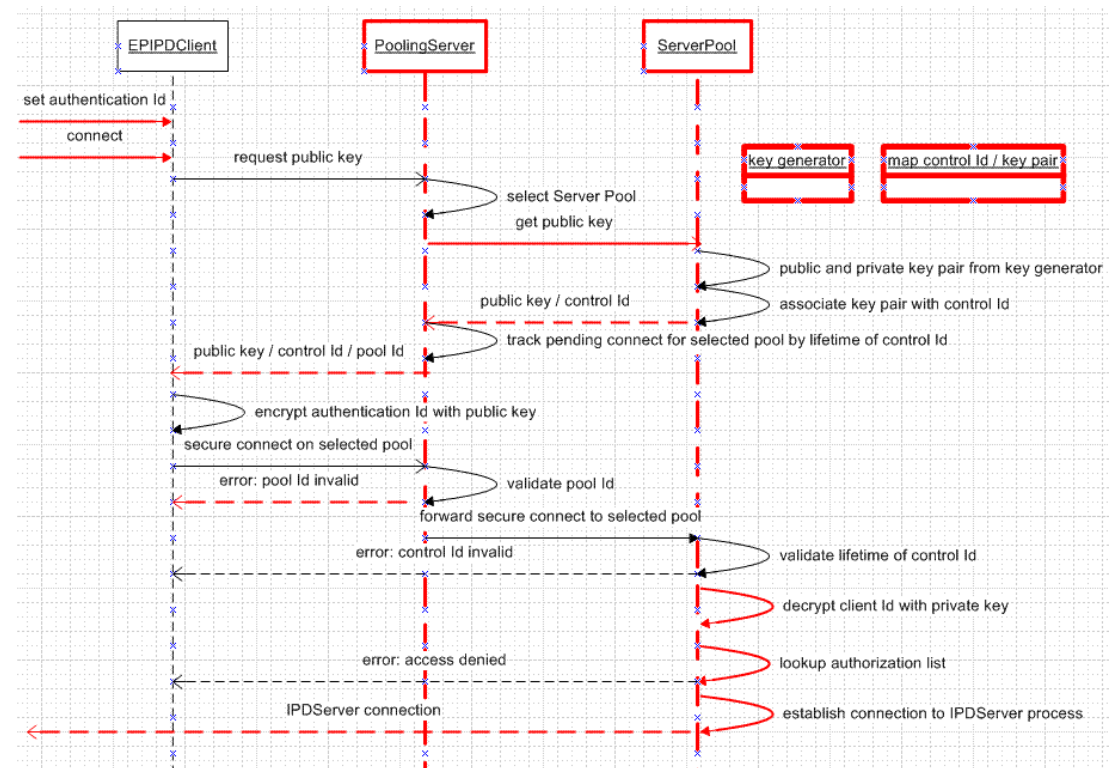

Figure 10: Secure Connection
The authentication is done by the Server Pool, assigning IPDServer processes to the client, the Server Pool must already be selected by the Pooling Server in step (1) and this Server Pool selection must be transferred with the secure connection in step (2). Figure 10 depicts how the secure connection is established.